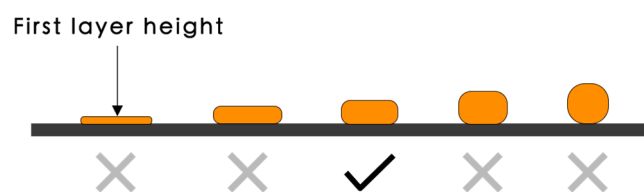

Figure 6. The optimum nozzle height and first layer width.
1. Recalibrating the built platform through active levelling or manual levelling. Run through the first layer calibration to adjust the Z-height to get the optimum distance between the nozzle and the first layer as shown in Figure 6 [63,67].